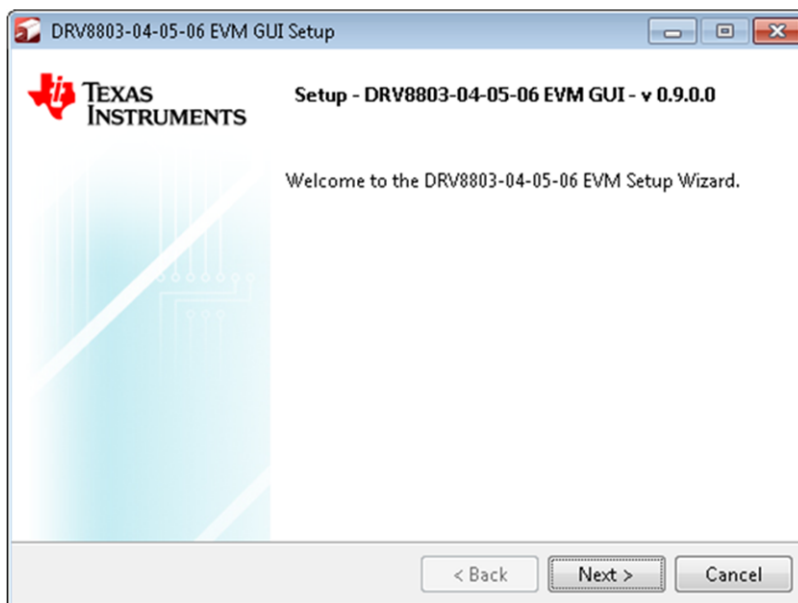

Figure 7. Installation Initialization
2. The screen in Figure 7 appears, indicating installer initialization. Click the **Next** button.